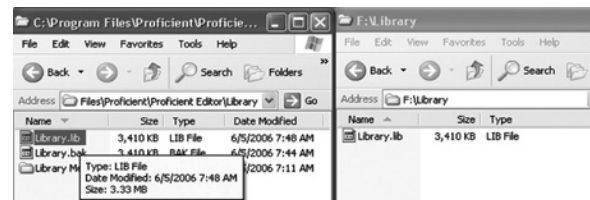

Figure 62 Copying Library.lib File to/from Removable Storage Media
2. Copy or drag and drop the **Library.lib** file to a removable storage media (i.e. USB "Mobile Drive," "Jumpdrive," CD-R, etc). Refer to Figure 62.